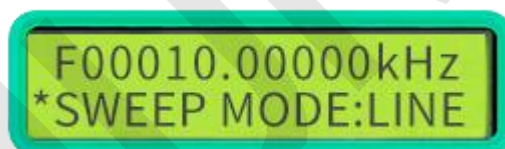

Figure 2-11-4
- Press the key **【 AMPL/PgDn 】** to enter the sweep mode selection interface as shown in Figure 2-11-4. Press key **【OUT/OK】** to select the frequency sweep mode. There are two frequency sweep modes: LINE (linear sweep) and LOG (logarithmic sweep).